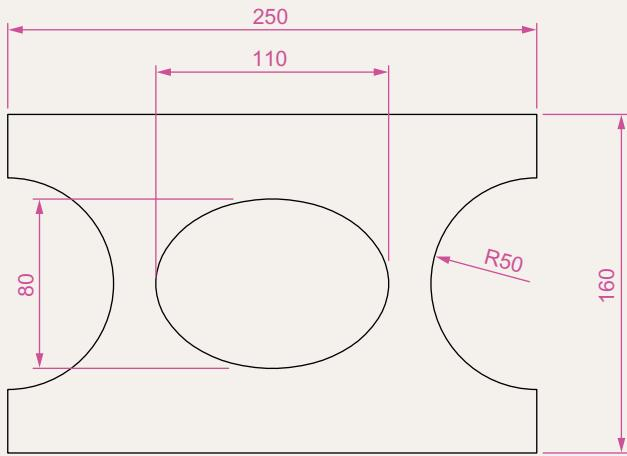

Fig. 12.50 Exercise 7
7. Working to the dimensions given in Fig. 12.50 construct an extrusion of the plate to a height of **5** units.